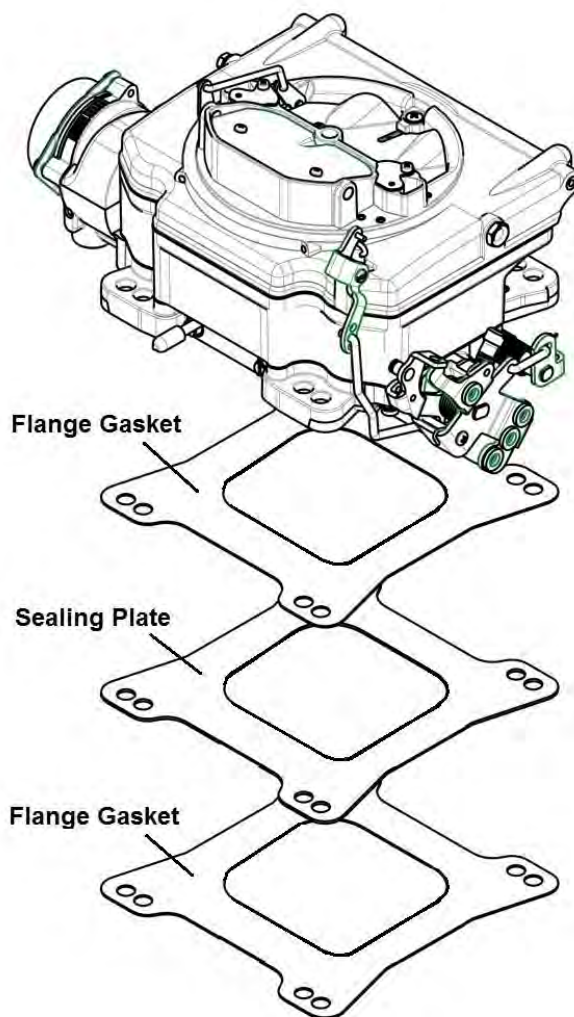

Figure 1
2. Place a new carburetor flange gasket, sealing plate and second flange gasket provided with the carburetor, in the proper position on the intake manifold (Fig. 1).